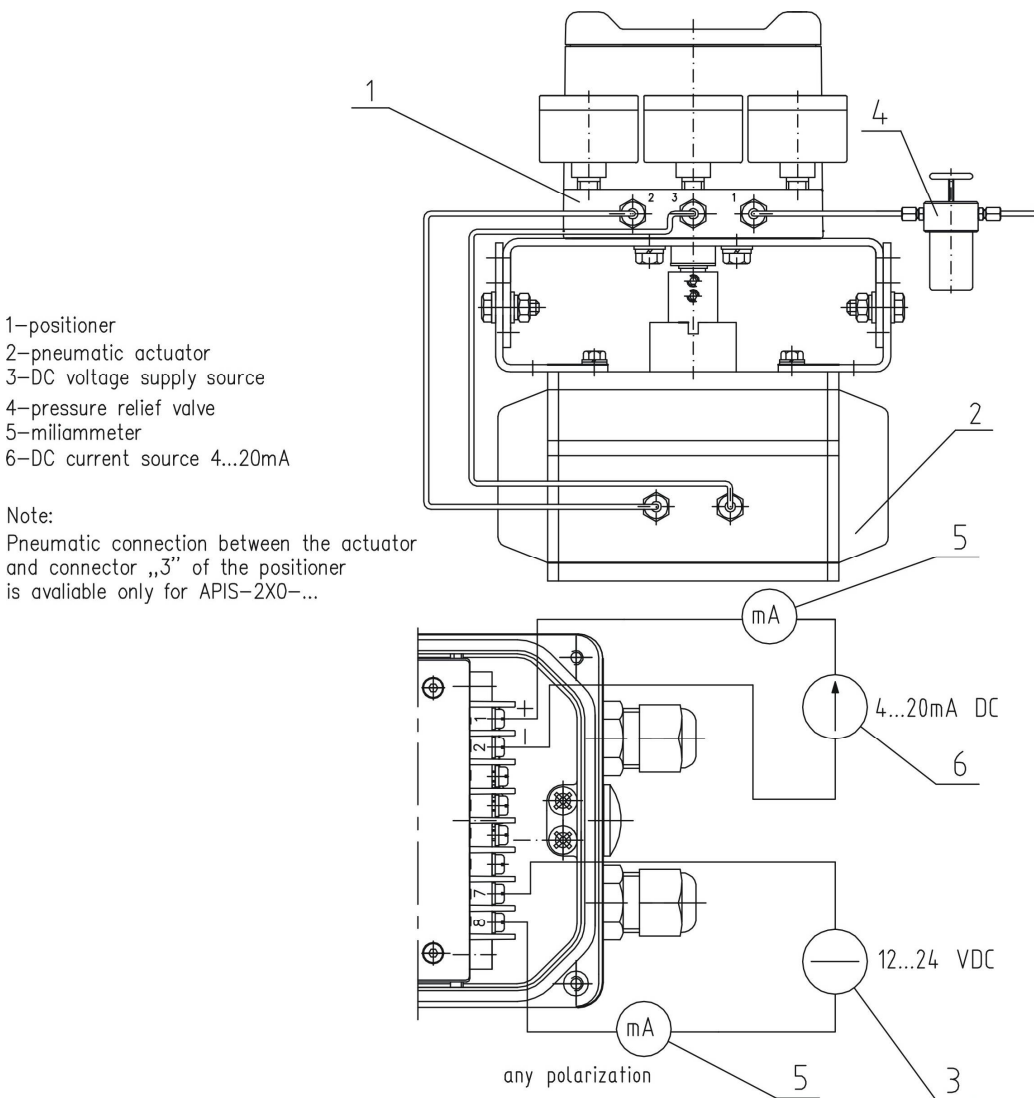

Fig. 18. Diagram of wiring for launching APIS-1X0-... and APIS-2X0-... positioners (single/double-acting rotary actuator)
- Positioner APIS-1X0-... and APIS-2X0-... installed on the actuator acc. to sect. 10.5. should be connected acc. to the diagram presented in Fig. 18.